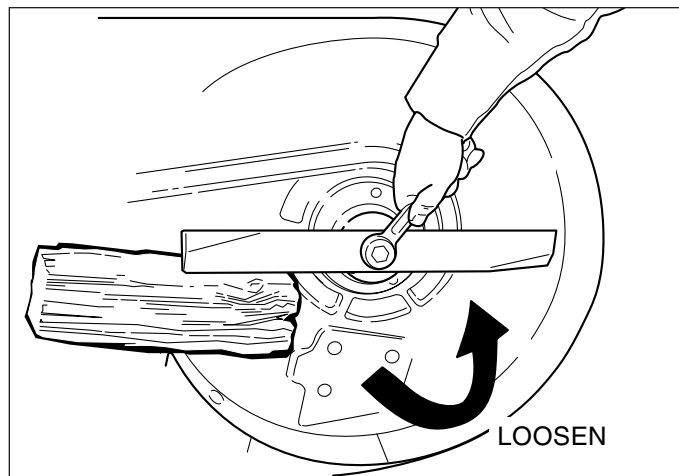

Figure 38. Removing the Blade
3. To remove blade for sharpening, use a wood block to hold blade while removing the blade mounting cap-screw (Figure 38).